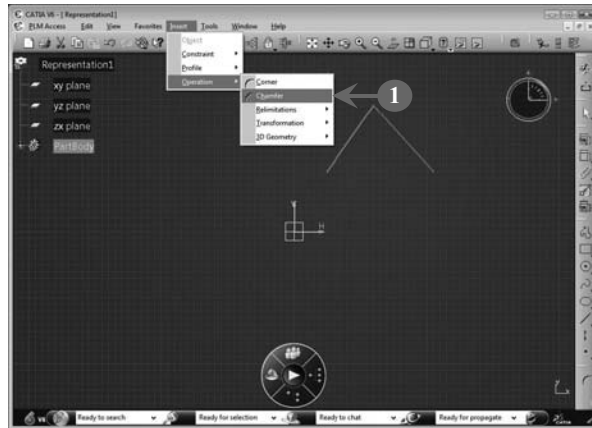

FIGURE 2.58
1. **Select Insert > Operation > Chamfer** to start the chamfering operation, as shown in **Figure 2.58**: